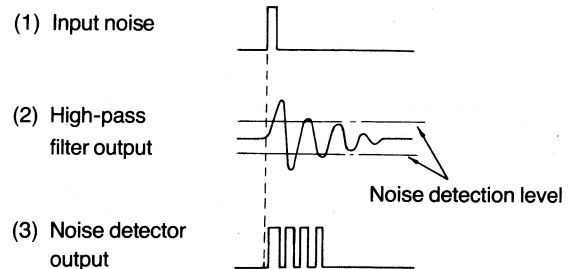

Fig. 24 Pulse Noise Wave Form
When pulse-like noise pass through the high-pass filter, the low-frequency range is attenuated and the output signal wave form from the high-pass filter becomes (2) in Fig. 24.
The noise detector detects this signal at a level higher than the noise detection level, and, for pulse amplification, the output becomes pulse lines such as shown (3) in Fig. 24.